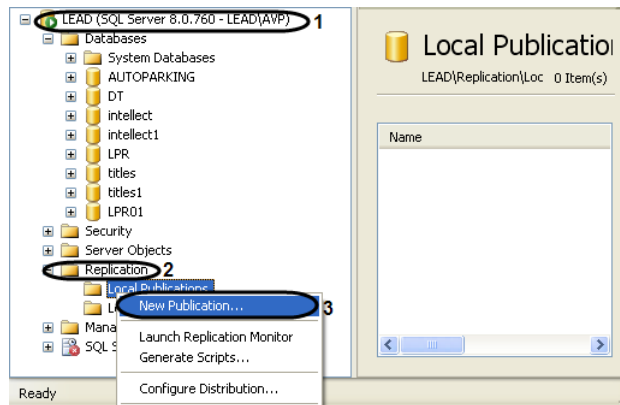

Fig. 9.2—1 New publication
1. Connect to Publication server in the Microsoft SQL Server Management Studio, and then open the server node (Fig. 9.2—1).
2. Open «Replication» folder and then click with a right mouse button over the «Local Publications» folder (Fig. 9.2—1, 2).
3. Select the point «New Publication» in the opened contextual window (Fig. 9.2—1, 3).